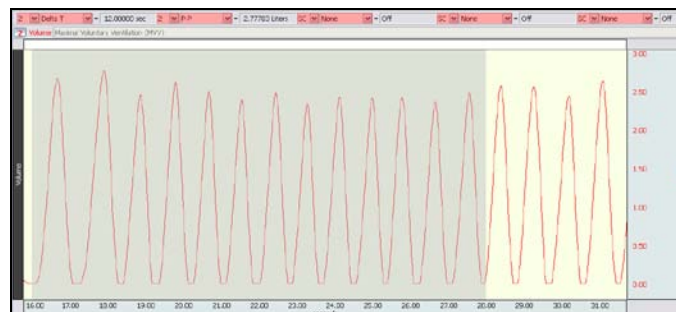
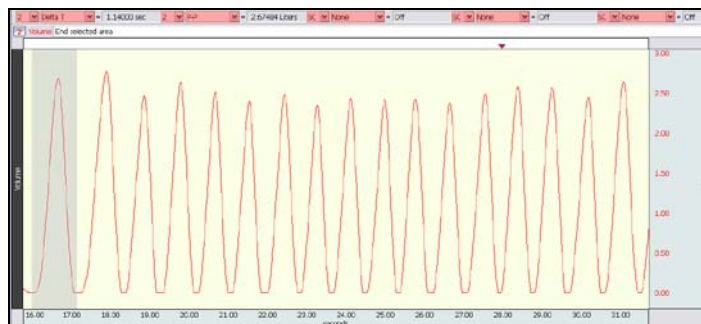

Fig. 13.26 Example of 12 second data selection
Fig. 13.28 Example of first cycle selection
- Use the **I-beam** cursor to select a twelve-second area that is convenient to count the number of cycles in the interval (Fig. 13.26).
Fig.13.28 shows the first cycle of the 12-second interval defined in Fig. 13.26 selected: